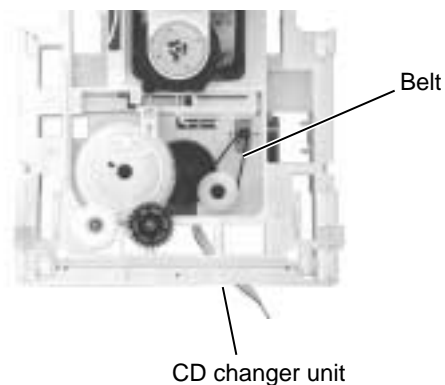

Fig.33
**■Removing the belt, the CD servo board and the switch board (See Fig.33 and 34)**